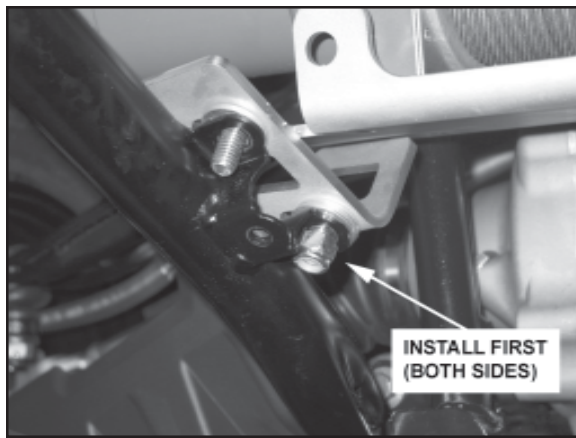

Figure 5
**4. IMPORTANT!** Use two 3/8-16 lock nuts, PN 6779, and attach the two rear/lower mounting bolts first, **Figure 5**. *This is important to properly seat the mount into the correct mounting position.*